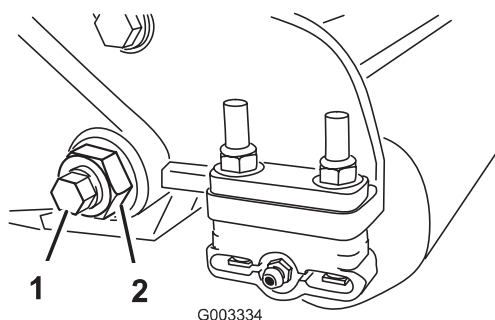
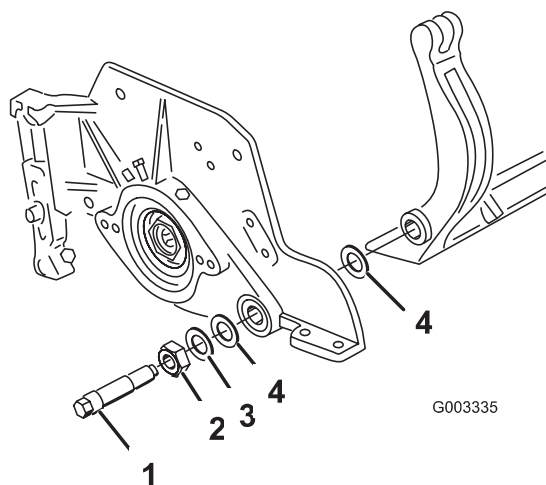

Figure 22
Figure 23
3. On each side of the machine, loosen the locknut securing the bedbar bolt (Fig. 22).
4. Remove each bedbar bolt allowing bedbar to be pulled downward and removed from machine (Fig. 22). Account for 2 nylon and 1 stamped steel washers on each end of bedbar (Fig. 23).
2. Secure bedbar to each side plate with bedbar bolts (nuts on bolts) and 6 washers. A nylon washer is to be positioned on each side of side plate boss. Place a steel washer outside each of the nylon washers (Fig. 23). Torque bedbar bolts to 27-33 ft.-lb. Tighten locknuts until the outside steel washer stops rotating and end play is removed but do not over-tighten or deflect side plates. Washers on inside may have a gap.